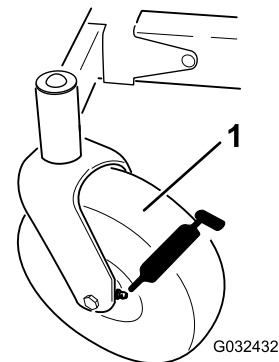

Figure 27
3. Clean the grease fittings (Figure 27) with a rag.
4. Connect a grease gun to each fitting (Figure 27).